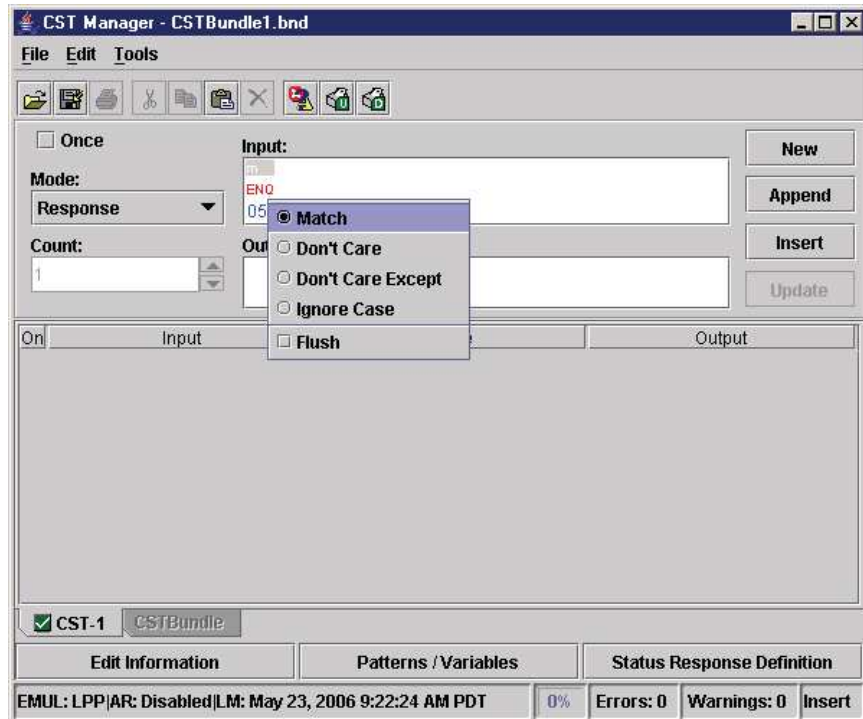

Figure 170 Response Mode Attributes
15. Right-click your input string. A list of possible attributes displays. See Figure 170.